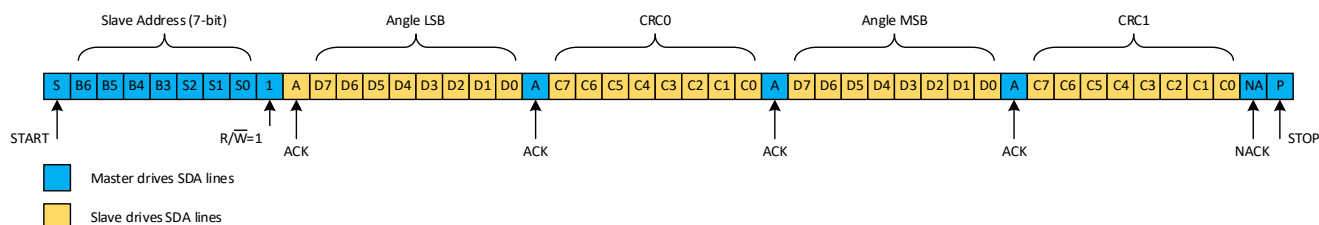

Figure 27: 16-bit angle I²C Quick Read with CRCEN = 1
- If CRC is enabled (CRCEN = 1), the sensor sends the CRC8 value after each register value (Figure 27).